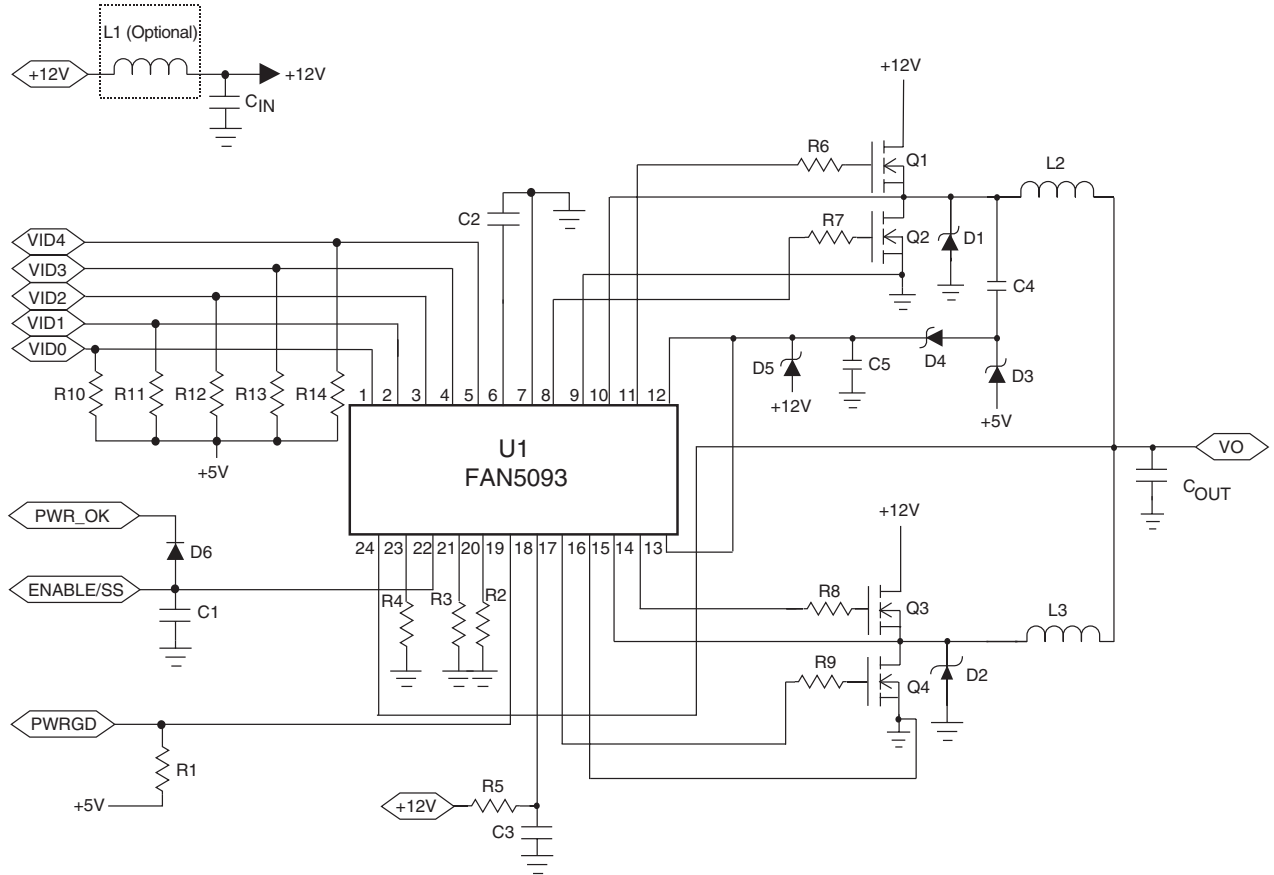

Figure 3. Application Circuit for 35A High-Frequency Application (1MHz each phase)
**Table 4. FAN5193 Application Bill of Materials for Figure 3**